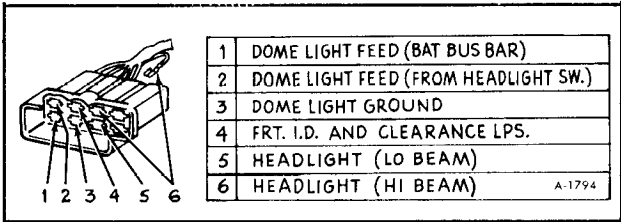

Figure 16–Front Wiring Connector
Dome lights, headlamps and front clearance lights are fed through an (8) way multiple connector located under the instrument panel. The front lighting wiring is part of the instrument panel wiring harness. Figure 16 shows the female portion of the front lighting harness and the appropriate wire position in the connector body.